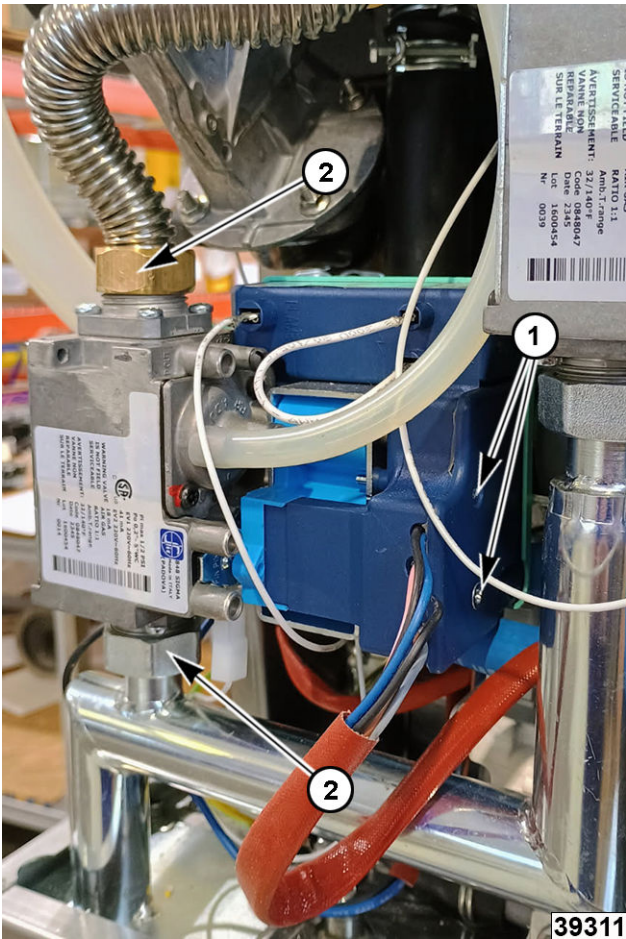

Fig. 106
4. Remove ignition module mounting screw (1, Fig. 106) to separate from gas valve.